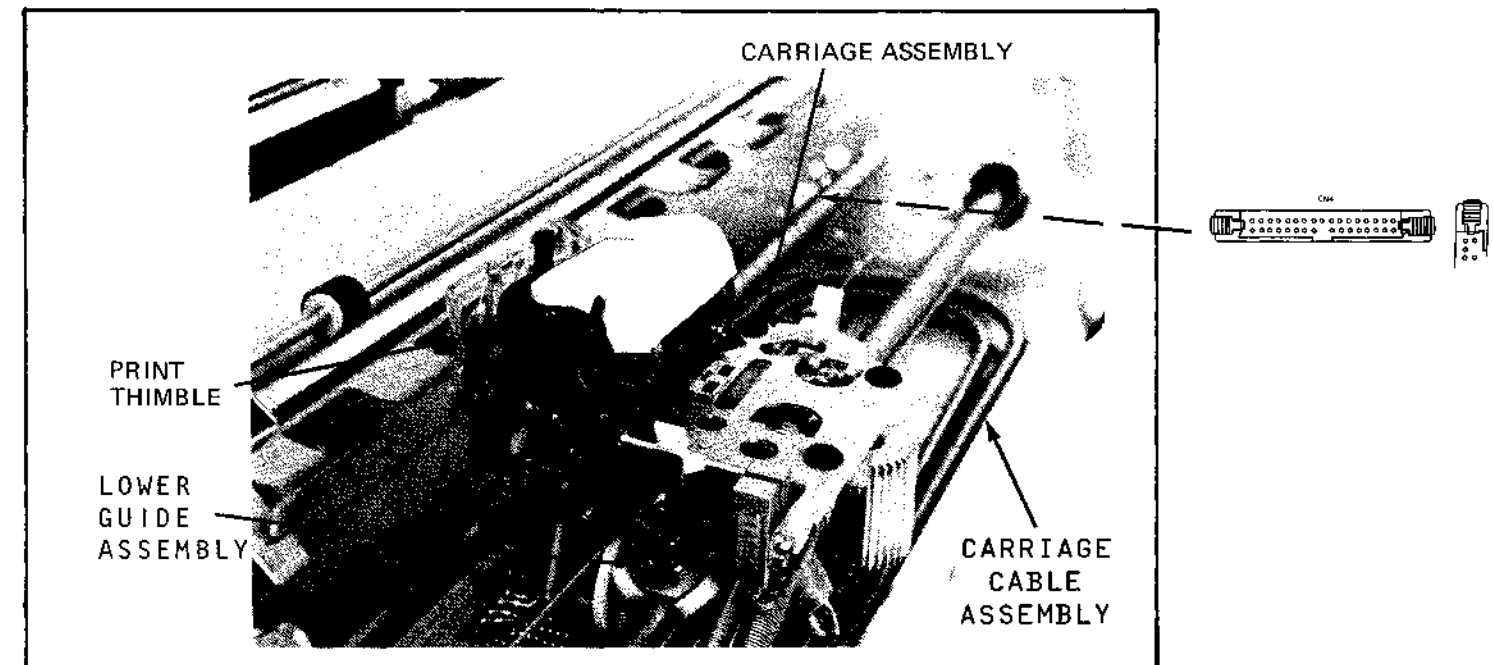

Figure 4-12 Carriage Location
4.7.1 Disassembly (Figure 4-12)
- e. Disconnect the carriage assembly connector (CN4) from the mother board. (Refer to Figure 4-12.)